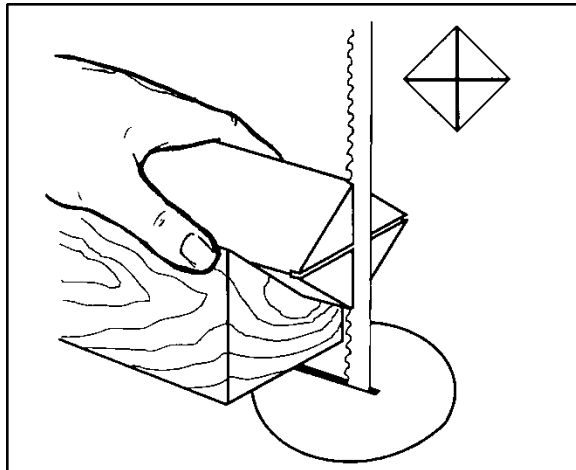

Figure 13
1. With a ruler locate and mark the center on each end by going corner to corner, see Figure 13. Accuracy is not critical on full rounds but extremely important on stock where square sections are to remain. Put a dimple in each end of the stock with an awl, or nail.
2. Extremely hard woods may require kerfs cut into the spur drive end of stock, see Figure 13. You may need to drive the spur center into the stock with a wood mallet. **Note:** Never drive stock onto spur while it is mounted in the lathe spindle.